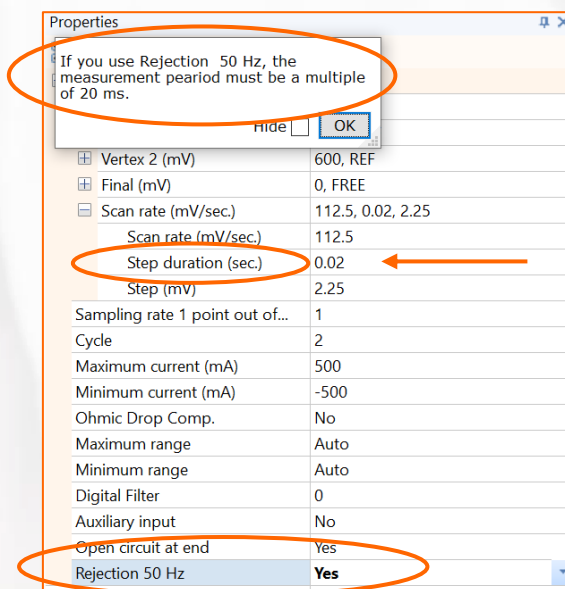

Figure 7: Step duration must be defined correctly regarding the frequency of power supply
A) If the frequency of power supplier is 50 Hz and rejection filter is selected as 50 Hz respectively, it means each frequency of power supplier will tack 20 mS, so the step duration must be multiple of 20 mS to have the same harmony with the electricity power supply to be well filtered. For example, 40 mS, 120 mS, 40 mS, ... (figure 7).